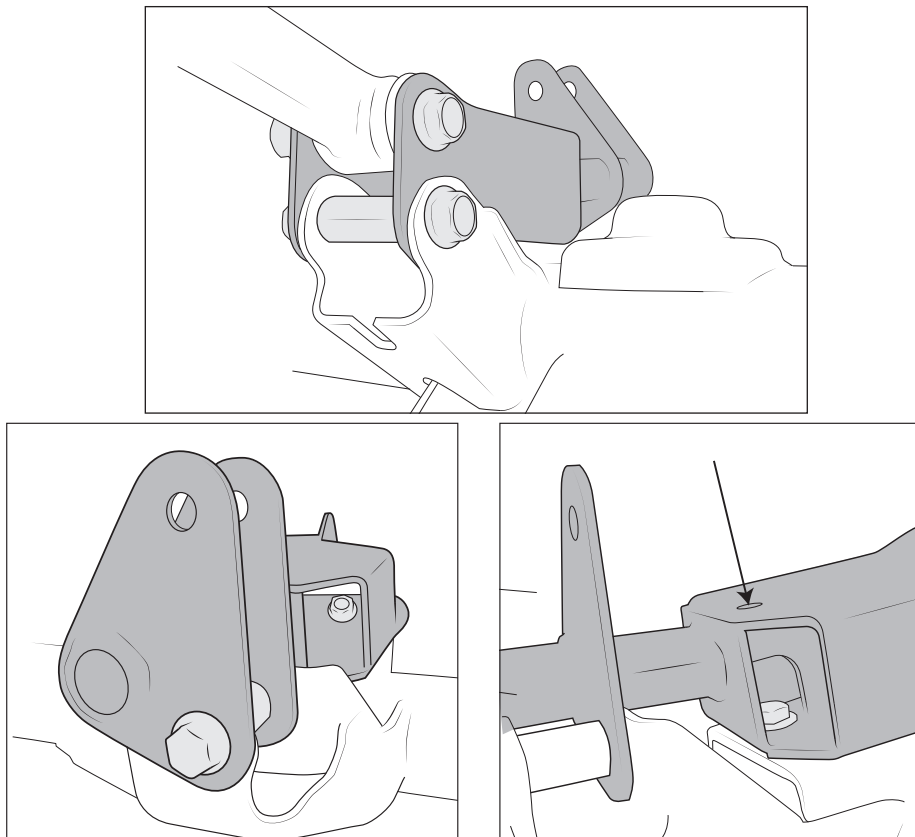

Figure 26
- A. Use provided M14 nut and bolt along with short sleeve spacer at factory track bar location with new bracket. Torque to 150 ft-lb. (fig. 26). To tighten bolts inside bumpstop spacers, place socket on bolt head from inside, then feed 3/8” extension through access hole in top of brackets.